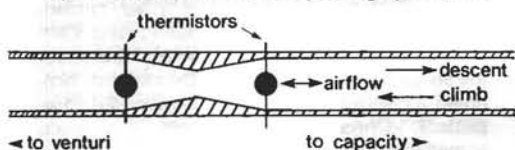

Fig 1
**a) Thermistor systems.** These operate by the air passing in or out of the instrument flowing past a pair of heated thermistors (see Fig 1). The first